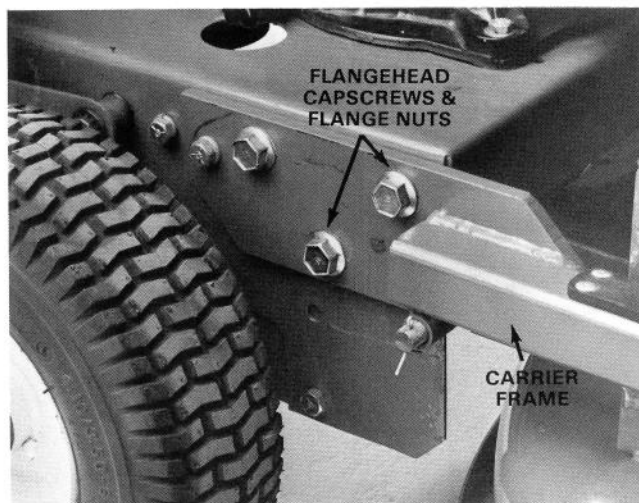

Figure 2
2. Remove the (2) front flange head capscrews and flange nuts securing right side of carrier frame to frame (Fig. 2)